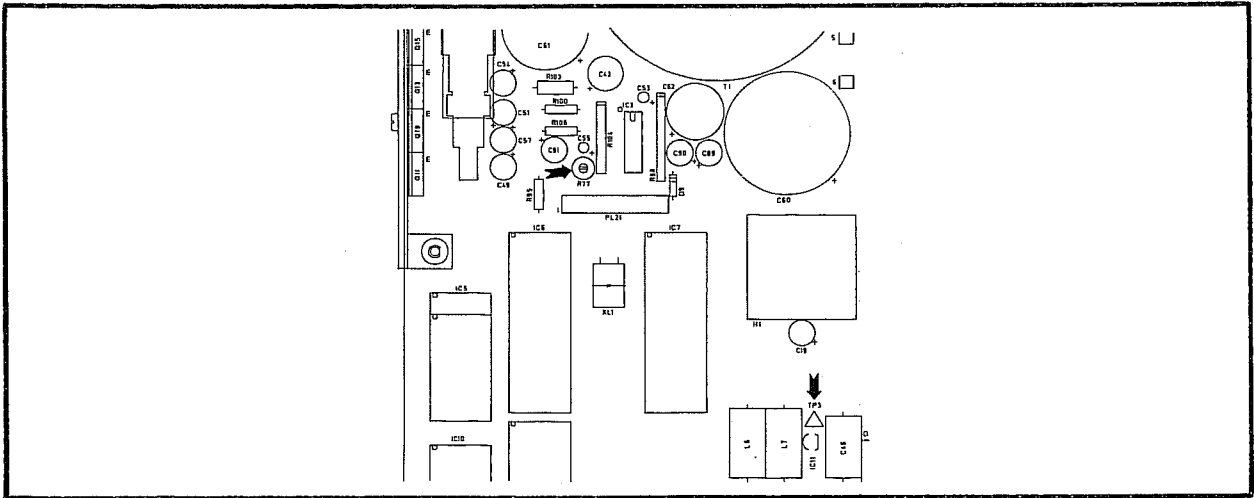

Fig. 7.3 Location of R77 and TP3
- 42 (1) Set R77 on the motherboard to mid position, see Fig. 7.3.
- (2) Use the digital multimeter and probe to monitor the voltage between TP3 (+ ve) and ground. Adjust R77 for +15 V +/-0.1 V.
- (3) Disconnect the digital multimeter.